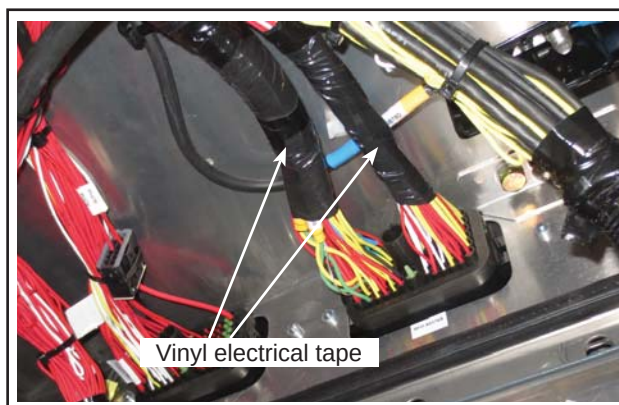

Figure 2 - RF0-X0178A Connector Harness Divided to Two Bundles
- 1.8. Divide the wire harness to two bundles from the middle of the connector. See Figure 2.
- 1.9. Apply vinyl electrical tape on both bundles individually, over 8 inches (20 cm) in length. See Figure 2.